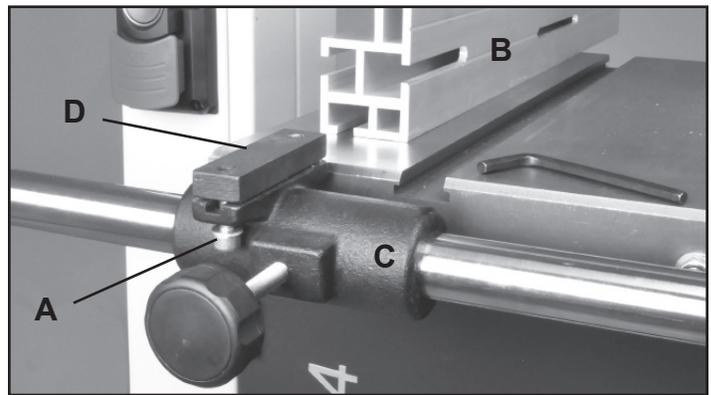

FIGURE 35
1. Loosen the two Hex Screws (#10F, Fig. 35, A) which hold the Rip Fence (#1F, B) to the Fence Carrier (#6F, C). Slide the fence forward to remove it from the carrier's Sliding Block (#5F, Fig. 35, D).
4. Loosen the two Hex Screws (#10F, Fig. 35, A) which hold the Rip Fence (#1F) to the Fence Carrier (#6F). Slide the fence forward to remove it from the carrier's Sliding Block (#5F).